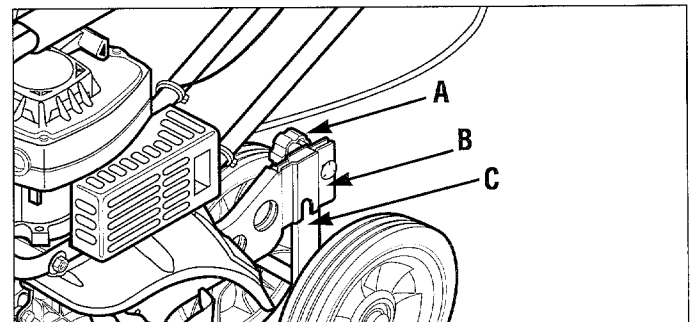

Figure 10: To adjust tilling depth, loosen knob (A) and move wheel bracket (B) up or down in relation to height bar (C). Retighten knob.
- a. Loosen tilling depth adjustment knob (A, Fig. 10).
- b. Move the wheel bracket (B, Figure 10) up in relation to the height adjustment bar (C). Moving the bracket upward sets your machine for shallower tilling, recommended for initial use.